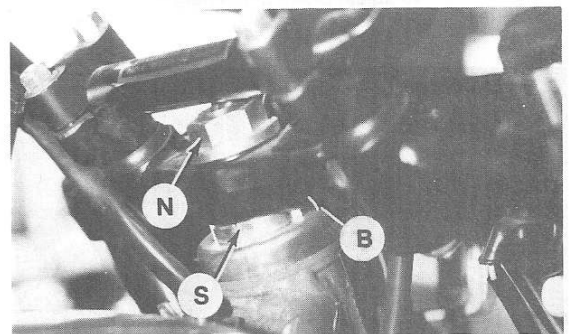

Fig. Y10-27—View identifies steering stem bracket nut (N), steering bracket (B) and slotted nut (S).
is indicated, adjust steering as follows: Loosen steering stem bracket nut (N—Fig. Y10-27). Rotate slotted steering stem nut (S) to remove steering play (tighten nut) or remove binding (loosen nut). Retighten steering stem bracket nut to 85 N·m (61 ft.-lbs.).
OVERHAUL. To separate the steering stem assembly from the frame's steering head, proceed as follows: Remove the front wheel and axle assembly, handlebars, headlight assembly, front fender, front brake hose clamp and breather hoses from steering stem. Remove left and right fork assembly, steering stem bracket nut (N—Fig. Y10-27) and remove steering bracket (B). Unscrew slotted nut (S), then remove dust cover, upper bearing cone and the 19 ball bearings from the upper end of steering head. Lower the steering stem assembly away from the steering head.